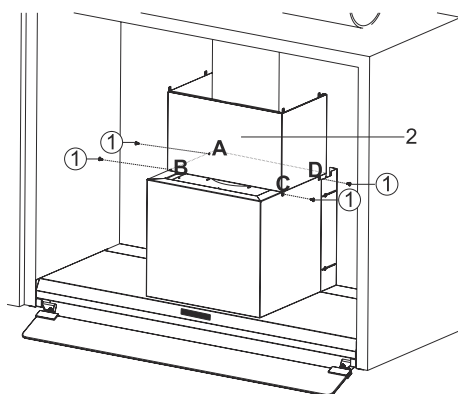

Fig. 15
- 5.** Place the supplied sheet metal flues on the product (Fig. 15).
Using the 4 connection screws through the A, B, C, D points to the appliance body (Fig. 15).